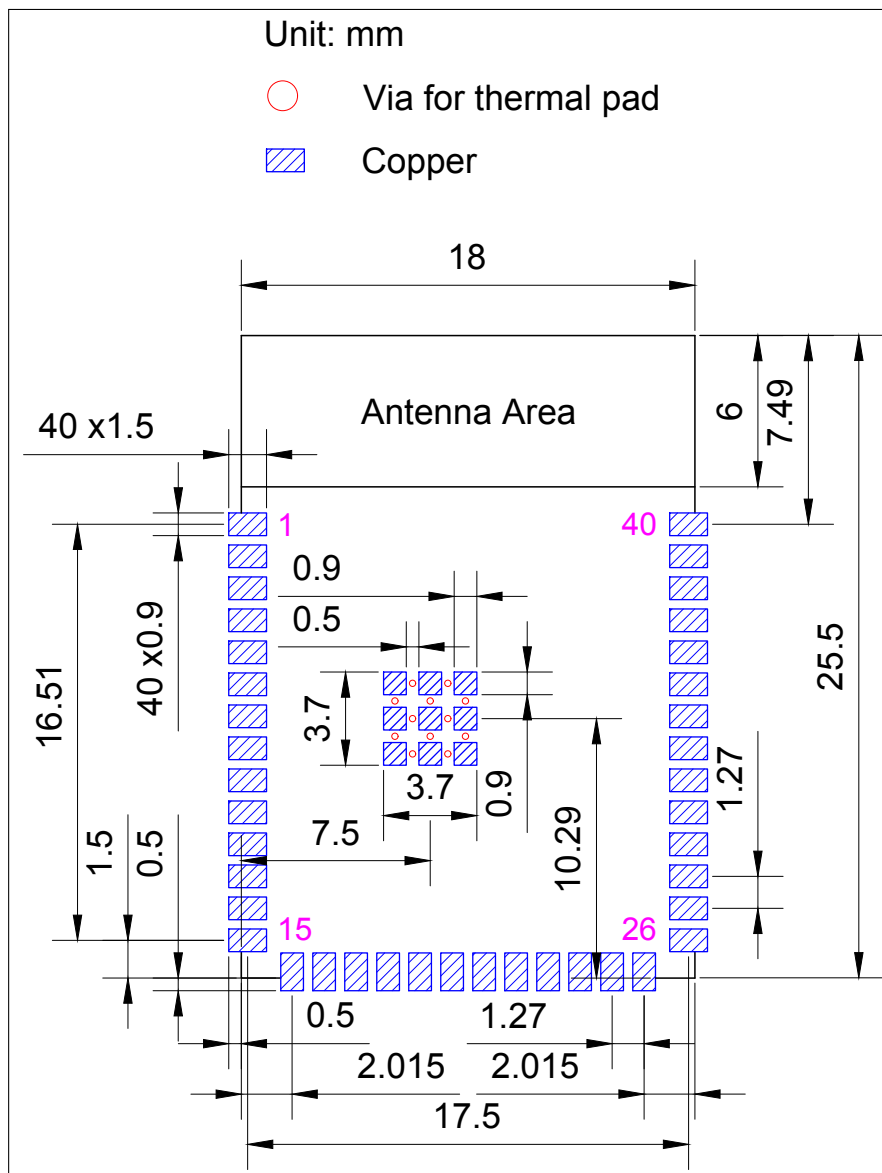
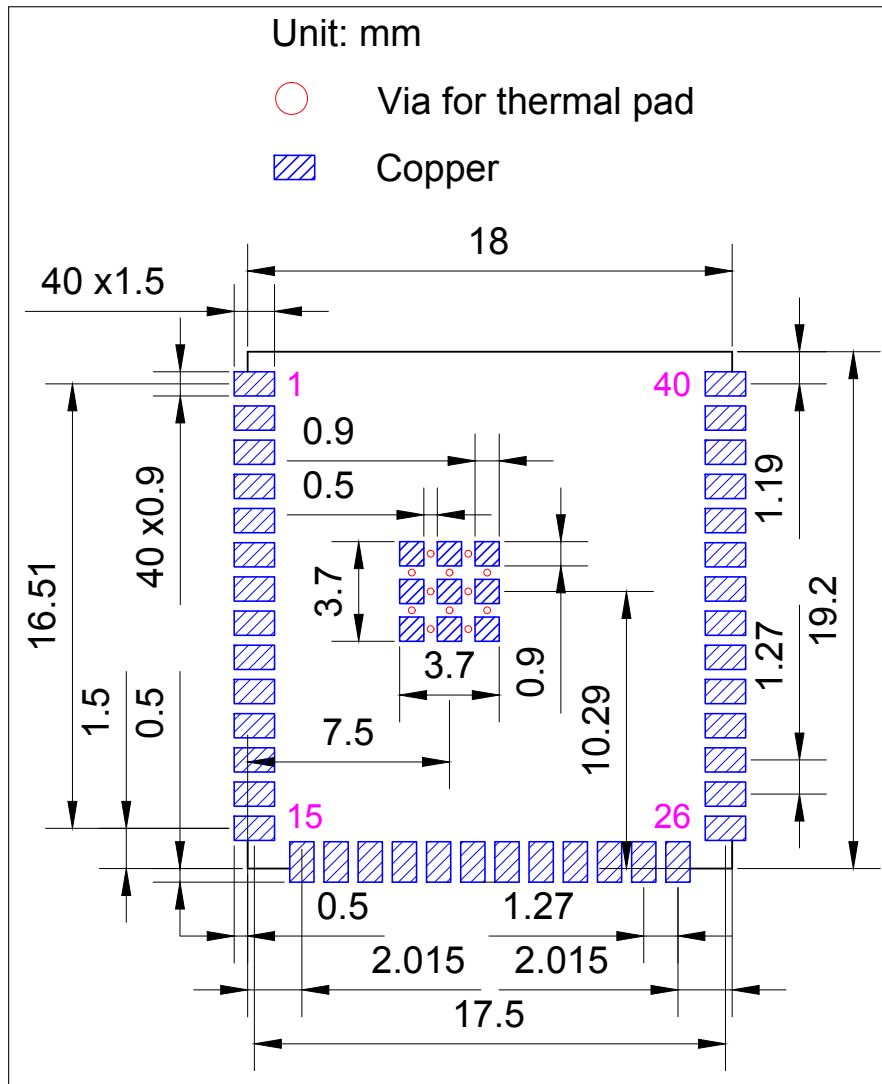

Figure 10-1. ESP32-S2-SOLO-2 Recommended PCB Land Pattern
Figure 10-2. ESP32-S2-SOLO-2U Recommended PCB Land Pattern
- Figures for recommended PCB land patterns with all the dimensions needed for PCB design. See Figure 10-1 *ESP32-S2-SOLO-2 Recommended PCB Land Pattern* and Figure 10-2 *ESP32-S2-SOLO-2U Recommended PCB Land Pattern*.
- Source files of recommended PCB land patterns to measure dimensions not covered in Figure 10-1 and Figure 10-2. You can view the source files for ESP32-S2-SOLO-2 and ESP32-S2-SOLO-2U with Autodesk Viewer.